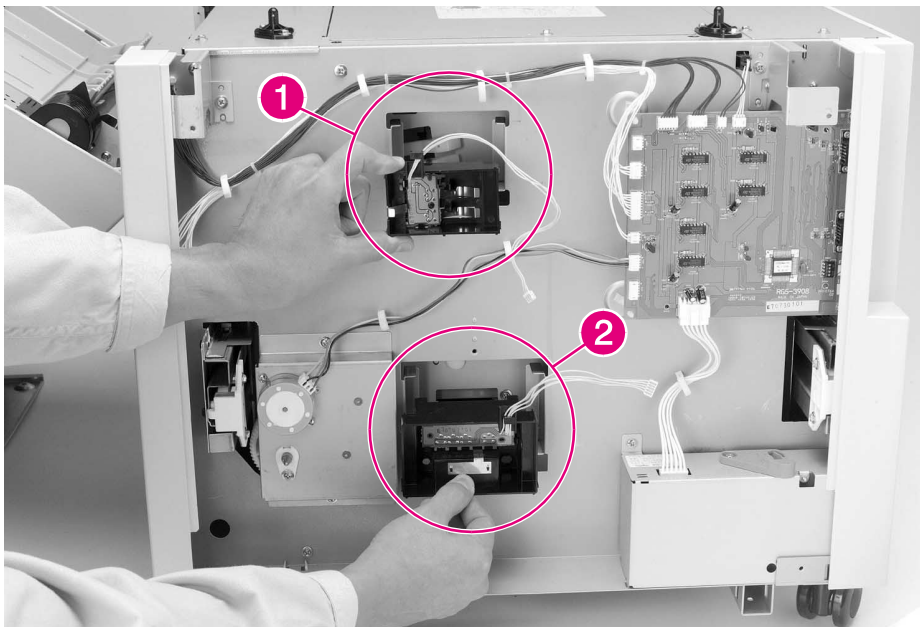

Figure 6-77 2000-sheet Input Tray Paper Size and Paper Quantity Switch
- 4 Pull the switch assembly out of its cavity (Figure 6-77, callout 1).
- 4 Pull the switch assembly out of its cavity (Figure 6-77, callout 2).